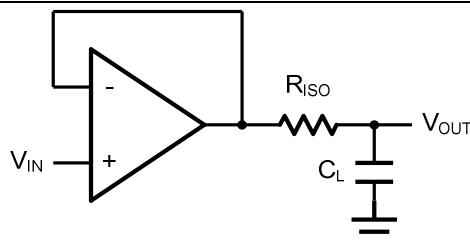
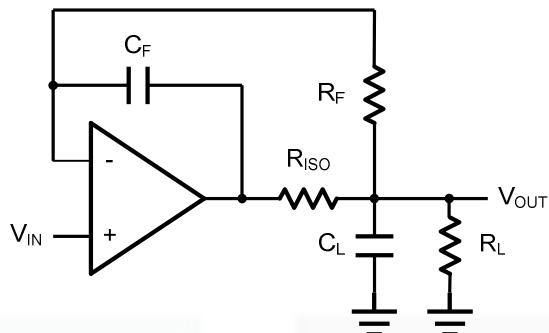

Figure 2. Indirectly Driving a Capacitive Load Using Isolation Resistor
Figure 3. Indirectly Driving a Capacitive Load with DC Accuracy
The P60X family is optimized for bandwidth and speed, not for driving capacitive loads. Output capacitance will create a pole in the amplifier's feedback path, leading to excessive peaking and potential oscillation. If dealing with load capacitance is a requirement of the application, the two strategies to consider are (1) using a small resistor in series with the amplifier's output and the load capacitance and (2) reducing the bandwidth of the amplifier's feedback loop by increasing the overall noise gain. Figure 2. shows a unity gain follower using the series resistor strategy. The resistor isolates the output from the capacitance and, more importantly, creates a zero in the feedback path that compensates for the pole created by the output capacitance.
The circuit in Figure 3 is an improvement to the one in Figure 2. R_F provides the DC accuracy by feed-forward the V_{IN} to R_L . C_F